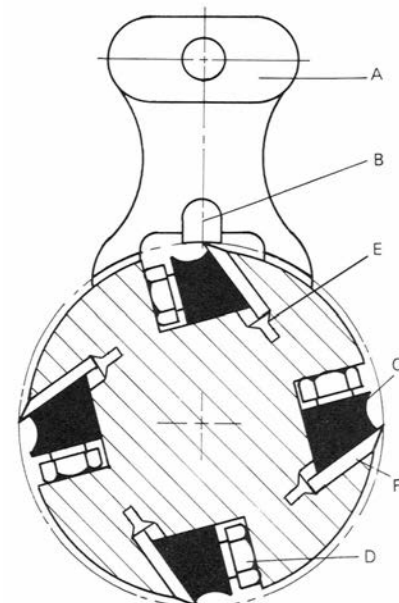

FIGURE 16
3. To check and adjust knives, use the knife gauge (A) Fig.16 and check all four knives. Knives should just contact the bottom of the center protrusion (B) of the knife gauge, as shown in Fig.16.
4. If an adjustment to one or more of the knives is necessary, slightly loosen the knife locking bars (C) Fig.16, of all four knives by turning the 24 locking screws (D) Fig.16 into the knife locking bars just enough to relieve stress in the cutterhead and not disturb the setting of the knives.
5. Using the knife gauge, adjust the knife that must be reset by loosening all six locking screws (D) Fig.16, by turning them into the knife locking bar. The knife locking bar becomes loose and knife adjustment is now possible. Using the hex. key supplied, unscrew Jackscrews (E) located under the knife until the knife comes into contact with the center protrusion (B) of the knife gauge (A). Then snug up the knife locking bar by lightly backing out the six locking screws (D) against the slot.